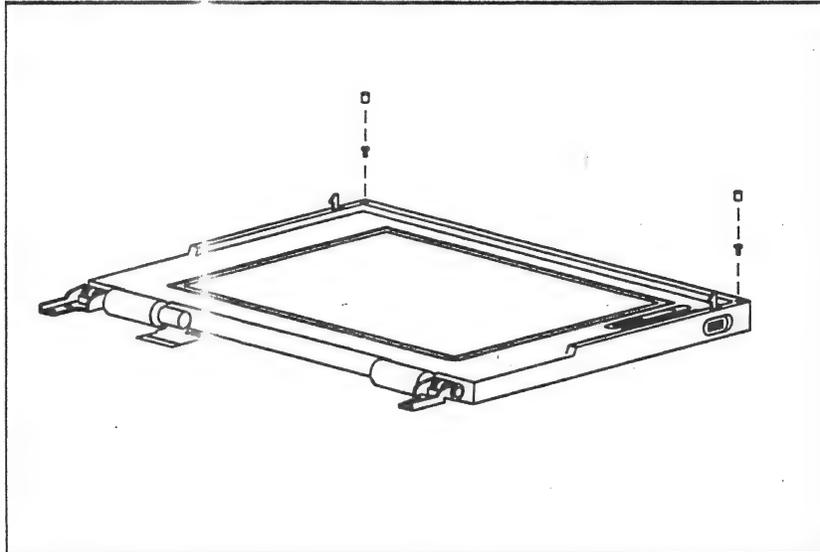

Figure 2-32. Removing the Two Screw Covers
2. Remove the two screw covers at the top of the display (Figure 2-32).
3. Using a Phillips P-0 screwdriver, remove the two screws located at the top of the display panel (Figure 2-32).